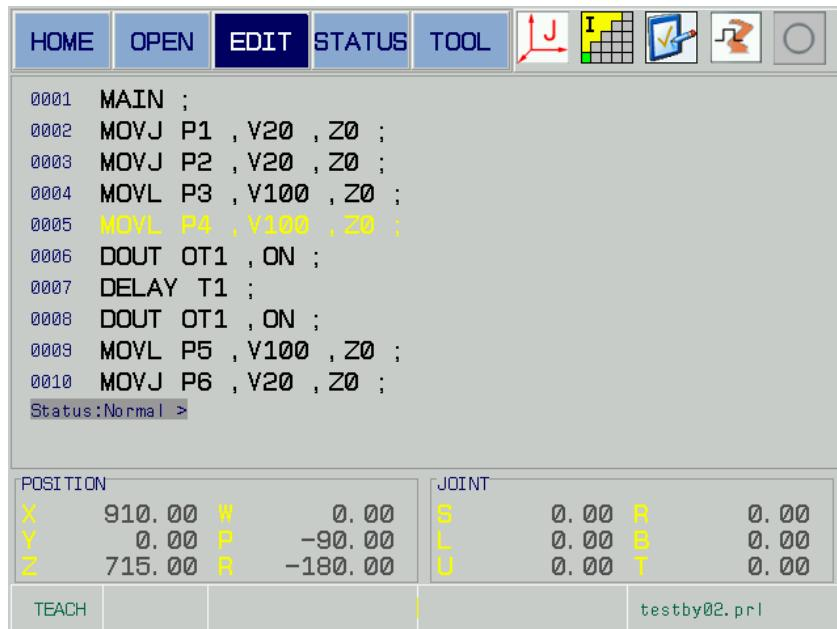

Fig. 5-32
The Fig. 5-32 regards as an example, it is supposed that the movement command MOVL speed at the 5th line is changed to 25; refer to the following steps:
1. Open the “testby02.prl”, enter the program display page; shift to the edit method by [F3], and then move the cursor to the 5th program position by up/down button; refer to the Fig. 5-32.